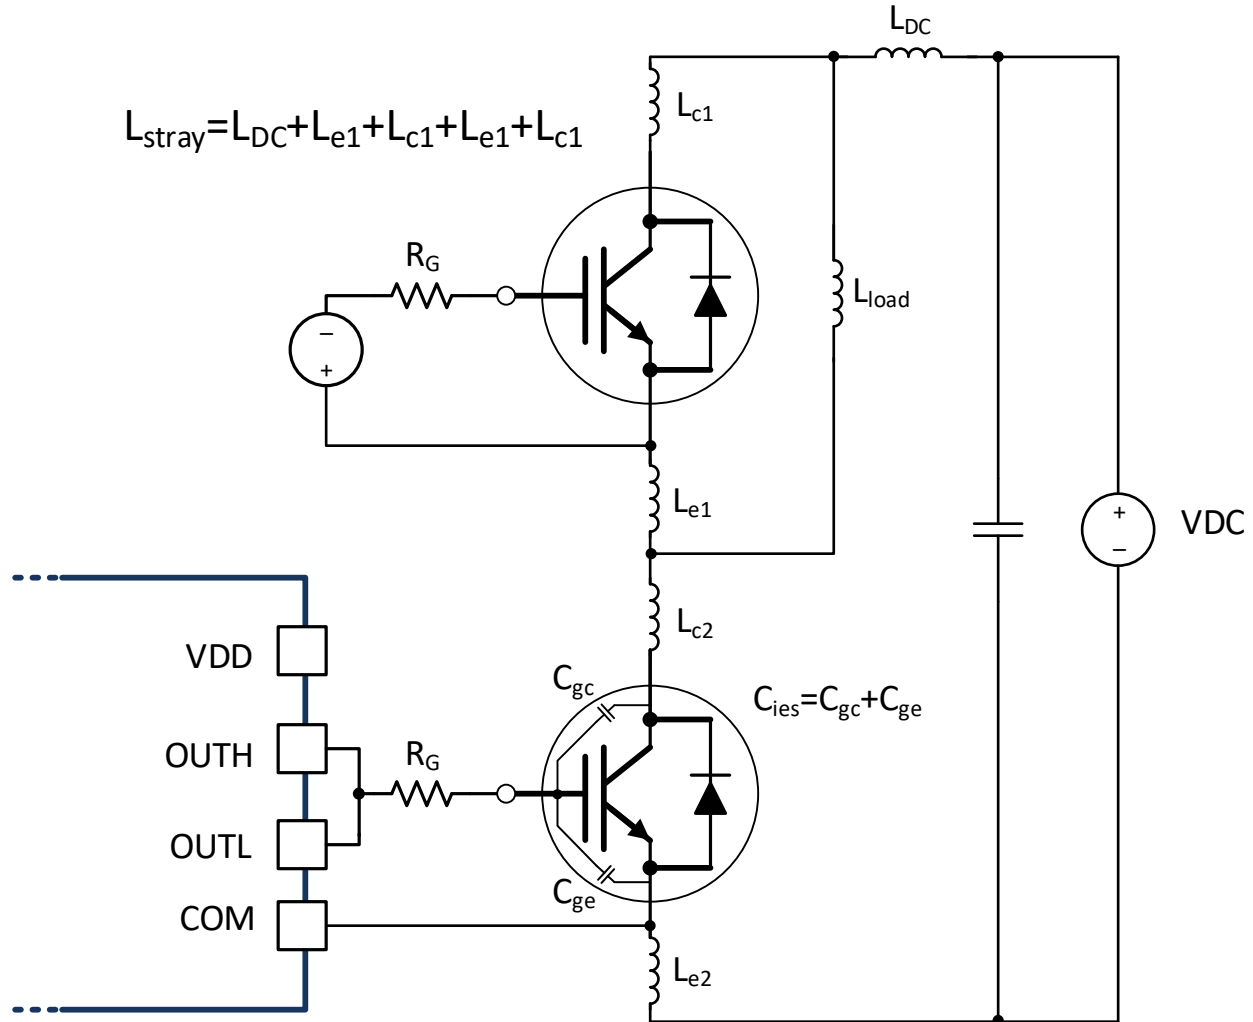

图 9-6. Stray Parasitic Inductance of IGBTs in a Half-Bridge Configuration
- L_{stray} is the stray inductance in power switching loop, as shown in Fig. 9-6.